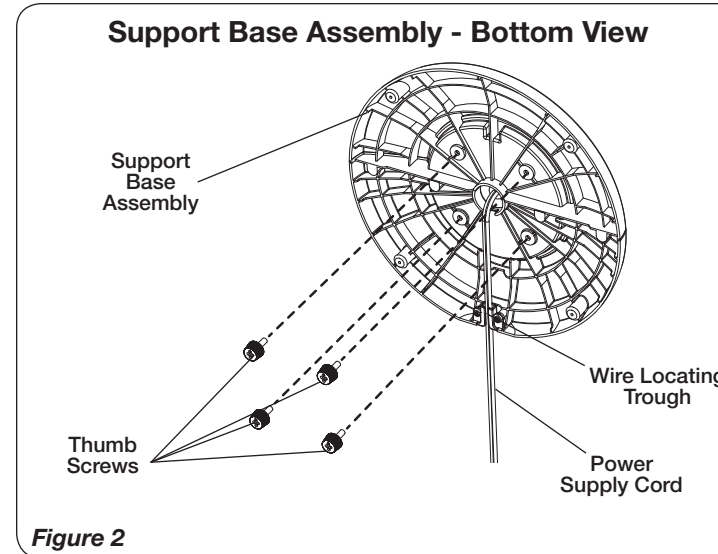

Figure 2
3. Align the *Support Base Assembly Alignment Tabs* with the alignment slots on the bottom of the Fan, noting that the cord channel on the bottom of the support base should be towards the back of the Fan. (Figure 2)
4. Secure the *Support Base Assembly* to the bottom of the Fan with (4) *Thumb Screws*. Gently pull any excess slack of the *Power Supply Cord* and place it in the *Wire Locating Trough*. (Figure 2)